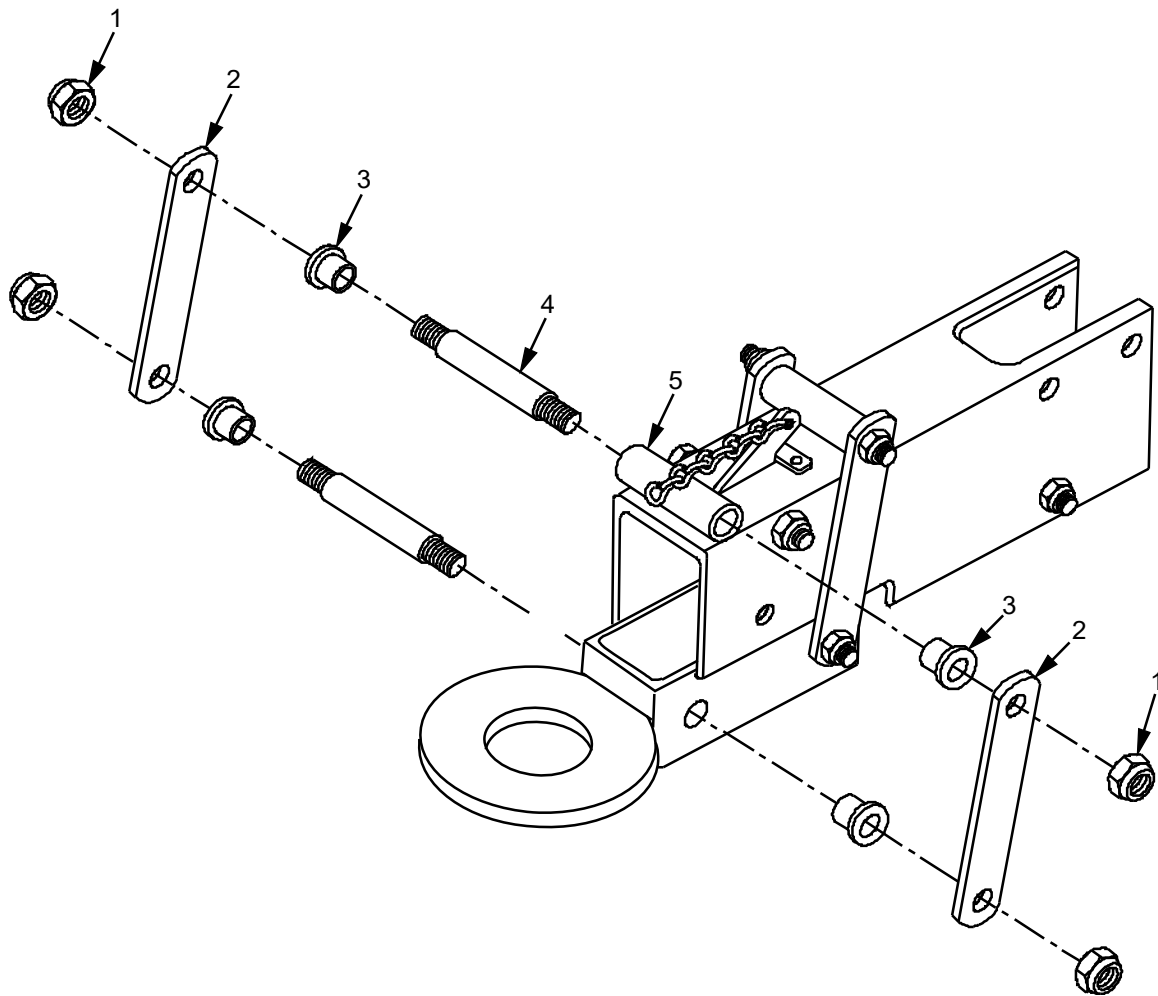
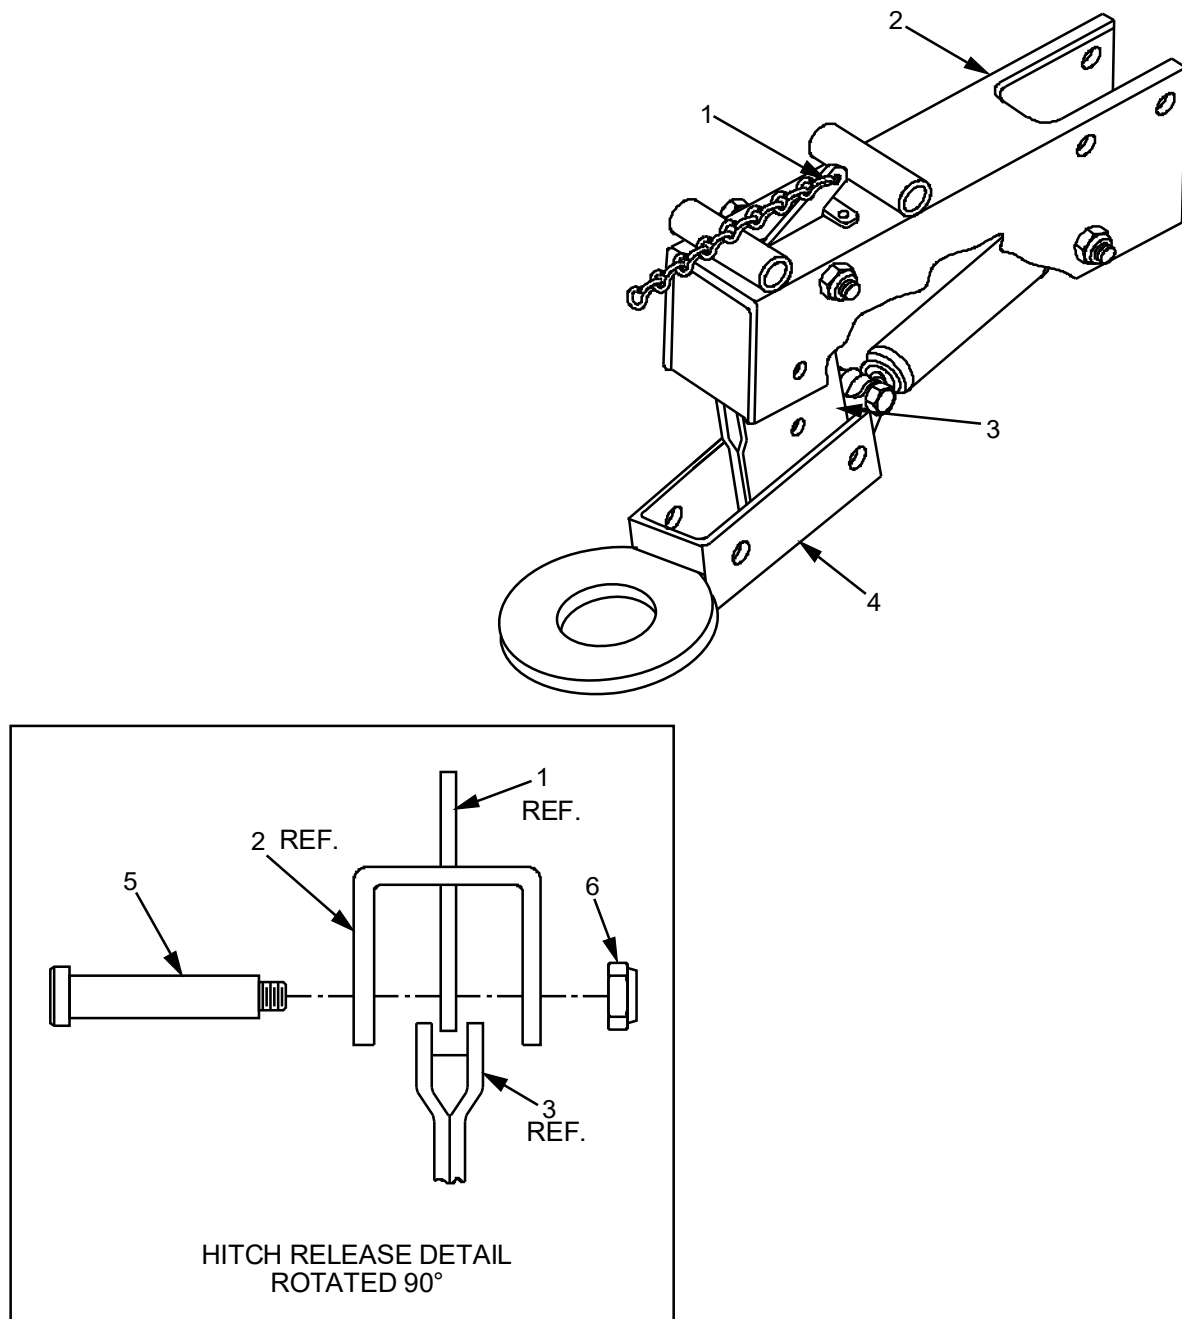
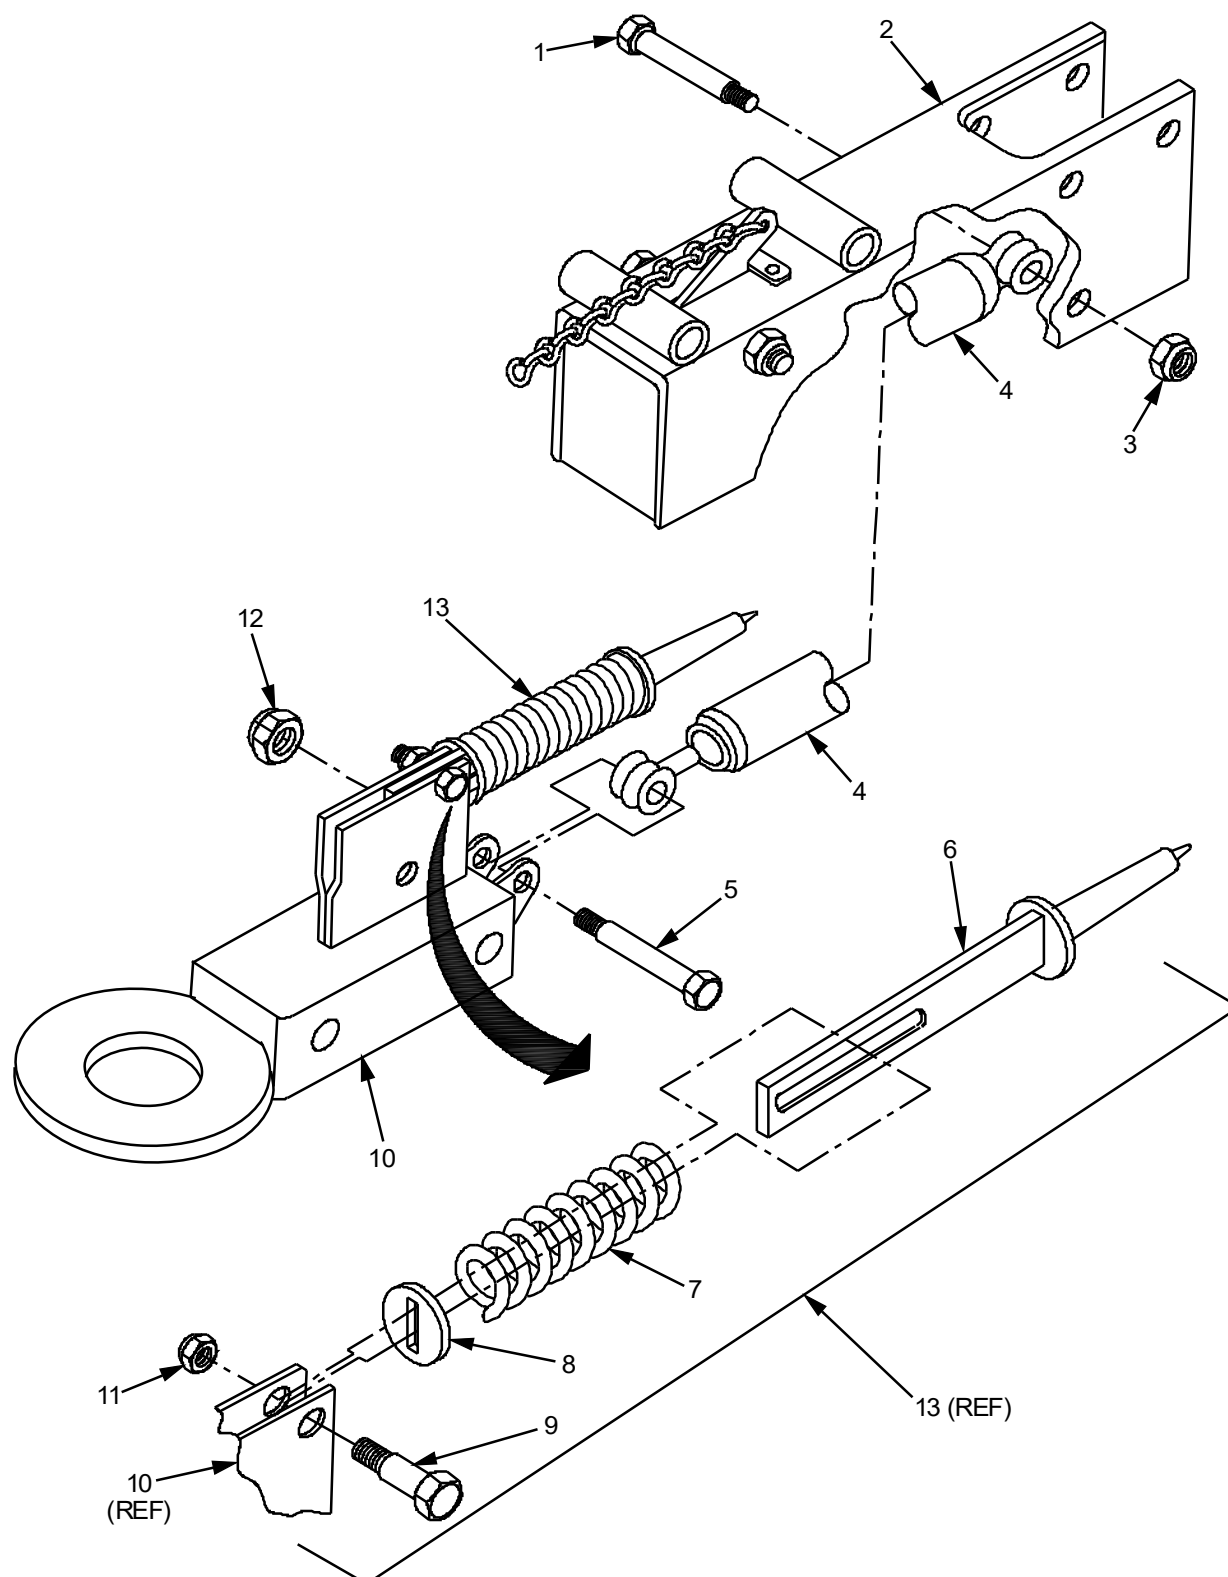
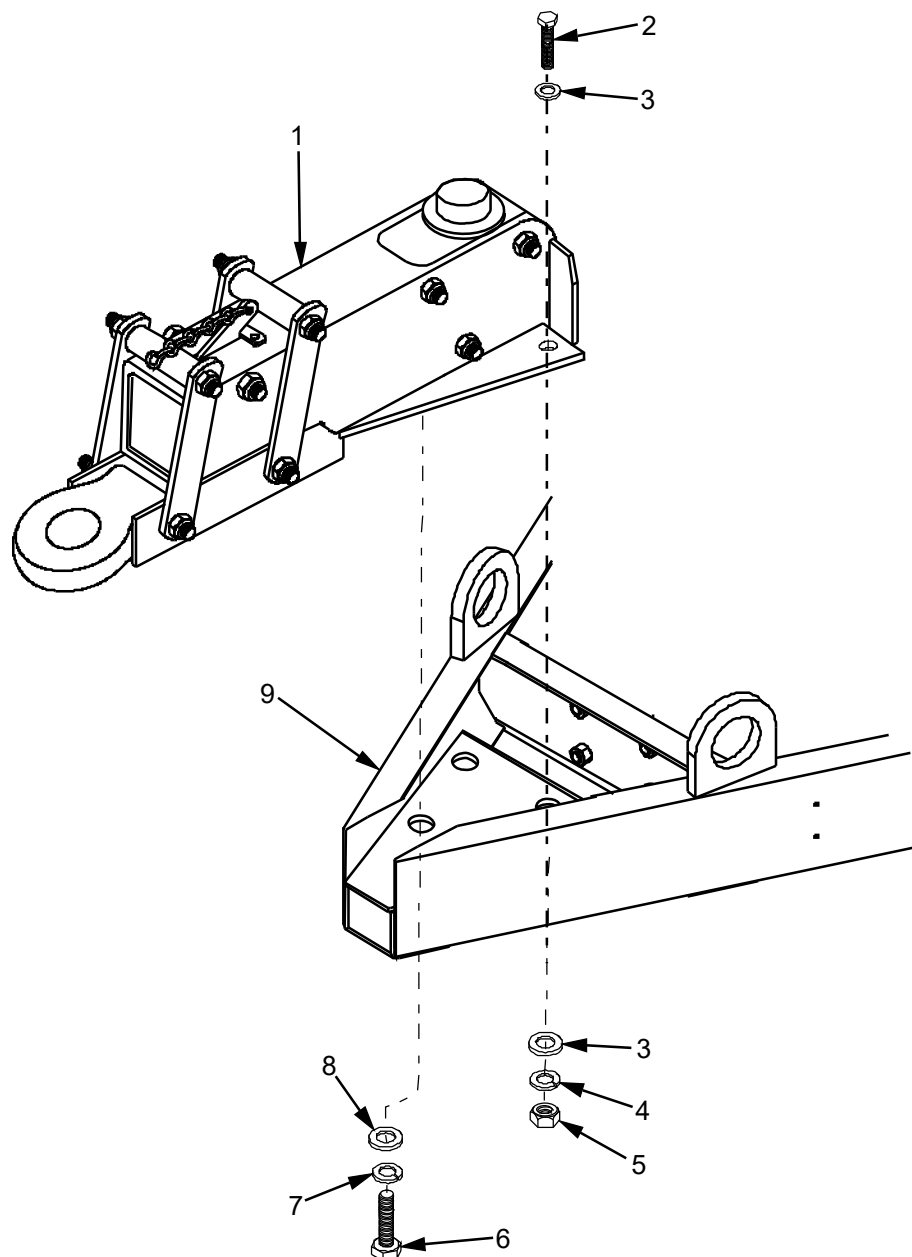

Figure 1. Brake Actuator Mounting Brackets Removal/Replacement.
Figure 2. Tow Pintle and Breakaway Lever Removal/Replacement.
Figure 3. Brake Actuator Shock Absorber and Hydraulic Push Rod Removal/Replacement.
Figure 4. Brake Actuator Assembly (New Version) Removal/Replacement.
3. Remove four lock nuts (Figure 1, Item 1) from sides of actuator mounting studs (Figure 1, Item 4).
4. Remove two actuator mounting brackets (Figure 1, Item 2) and four spacers (Figure 1, Item 3) from same side of actuator assembly and set aside.
5. Tap actuator mounting studs (Figure 1, Item 4), brackets (Figure 1, Item 2), spacers (Figure 1, Item 3), and lock nuts (Figure 1, Item 1) through to other side. Set parts aside.
6. Lower tow Pintle (Figure 2, Item 4) and actuator (Figure 2, Item 3) down from actuator assembly (Figure 2, Item 2). Remove actuator (Figure 2, Item 3).
7. If replacing breakaway lever, remove bolt (Figure 2, Item 5) and lock nut (Figure 2, Item 6) from actuator assembly (Figure 2, Item 2) and lift breakaway lever (Figure 2, Item 1) from actuator assembly (Figure 2, Item 2).
1. If replacing hydraulic push rod (Figure 3, Item 6), washer (Figure 3, Item 8), and spring (Figure 3, Item 7), place actuator (Figure 3, Item 10) on a suitable work surface and insert bolt (Figure 3, Item 9) through actuator (Figure 3, Item 10) and hydraulic push rod assembly (Figure 3, Item 13). Secure with self-locking nut (Figure 3, Item 11) and tighten.
2. If replacing shock absorber (Figure 3, Item 4), insert bolt (Figure 3, Item 5) through shock absorber (Figure 3, Item 4) and actuator (Figure 3, Item 10) and secure with lock nut (Figure 3, Item 12).
3. If replacing breakaway lever, slide breakaway lever (Figure 3, Item 1) into slot in actuator assembly (Figure 2, Item 2) and insert bolt (Figure 2, Item 5) through actuator assembly (Figure 2, Item 2) and breakaway lever (Figure 2, Item 1) and secure with lock nut (Figure 2, Item 6).
4. Raise tow pintle (Figure 2, Item 4) and actuator (Figure 2, Item 3) into actuator assembly (Figure 2, Item 2).
5. Ensure that breakaway lever (Figure 2, Item 1) slides into slot in actuator groove (Figure 2, Item 3).
6. Insert actuator mounting studs (Figure 1, Item 4), mounting brackets (Figure 1, Item 2), spacers (Figure 1, Item 3), and lock nuts (Figure 1, Item 1) into one side of actuator assembly (Figure 1, Item 5).
7. Install actuator mounting brackets (Figure 1, Item 2), spacers (Figure 1, Item 3), and lock nuts (Figure 1, Item 1) on other side of actuator assembly (Figure 3, Item 5).
8. Install bolt (Figure 3, Item 1) through shock absorber (Figure 3, Item 4) and actuator (Figure 3, Item 2). Secure with lock nut (Figure 3, Item 3). Tighten all hardware.
2. Remove two bolts (Figure 4, Item 6), split lock washers (Figure 4, Item 7), and flat washers (Figure 4, Item 8) that secure brake actuator assembly (Figure 4, Item 1) to trailer (Figure 4, Item 9) from underneath trailer.
3. Remove two bolts (Figure 4, Item 2), split lock washers (Figure 4, Item 4), locknuts (Figure 4, Item 5), and four flat washers (Figure 4, Item 3) that secure brake actuator assembly (Figure 4, Item 1) to trailer (Figure 4, Item 9) from above trailer.
4. Carefully lift and remove actuator assembly (Figure 4, Item 1) from trailer tongue (Figure 4, Item 9).
1. Place actuator assembly (Figure 4, Item 1) into recessed area of trailer tongue (Figure 4, Item 9).
2. From underneath the trailer tongue and actuator assembly, insert two bolts (Figure 4, Item 6), flat washers (Figure 4, Item 8), and split washers (Figure 4, Item 7) through trailer tongue (Figure 4, Item 9) and actuator assembly (Figure 4, Item 1).
3. From above the trailer tongue, insert two bolts (Figure 4, Item 2) and flat washers (Figure 4, Item 4) through actuator assembly (Figure 1, Item 1) and trailer tongue (Figure 1, Item 9). Secure with two flat washers (Figure 4, Item 3), split washers (Figure 4, Item 4), and lock nuts (Figure 4, Item 5) (refer to WP 0150 for torque requirements).